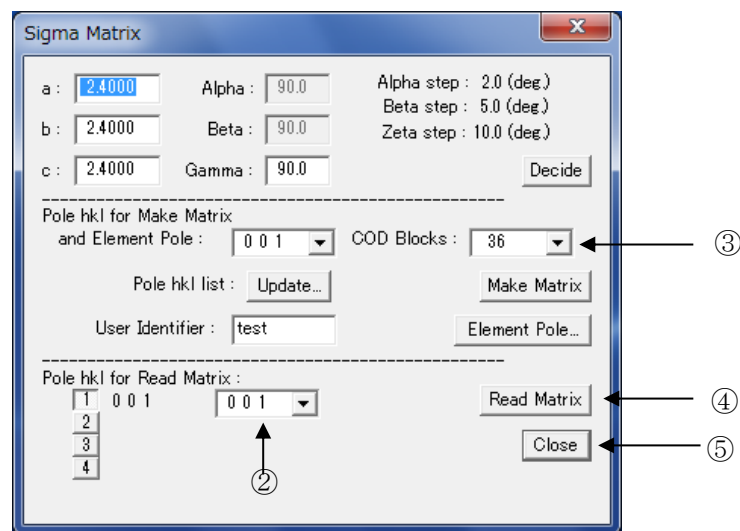

Fig. 3 Sigma Matrix Dialog
① By “Sigma Matrix read...” button click, ”Sigma Matrix” dialog ( Fig.3 ) is shown.